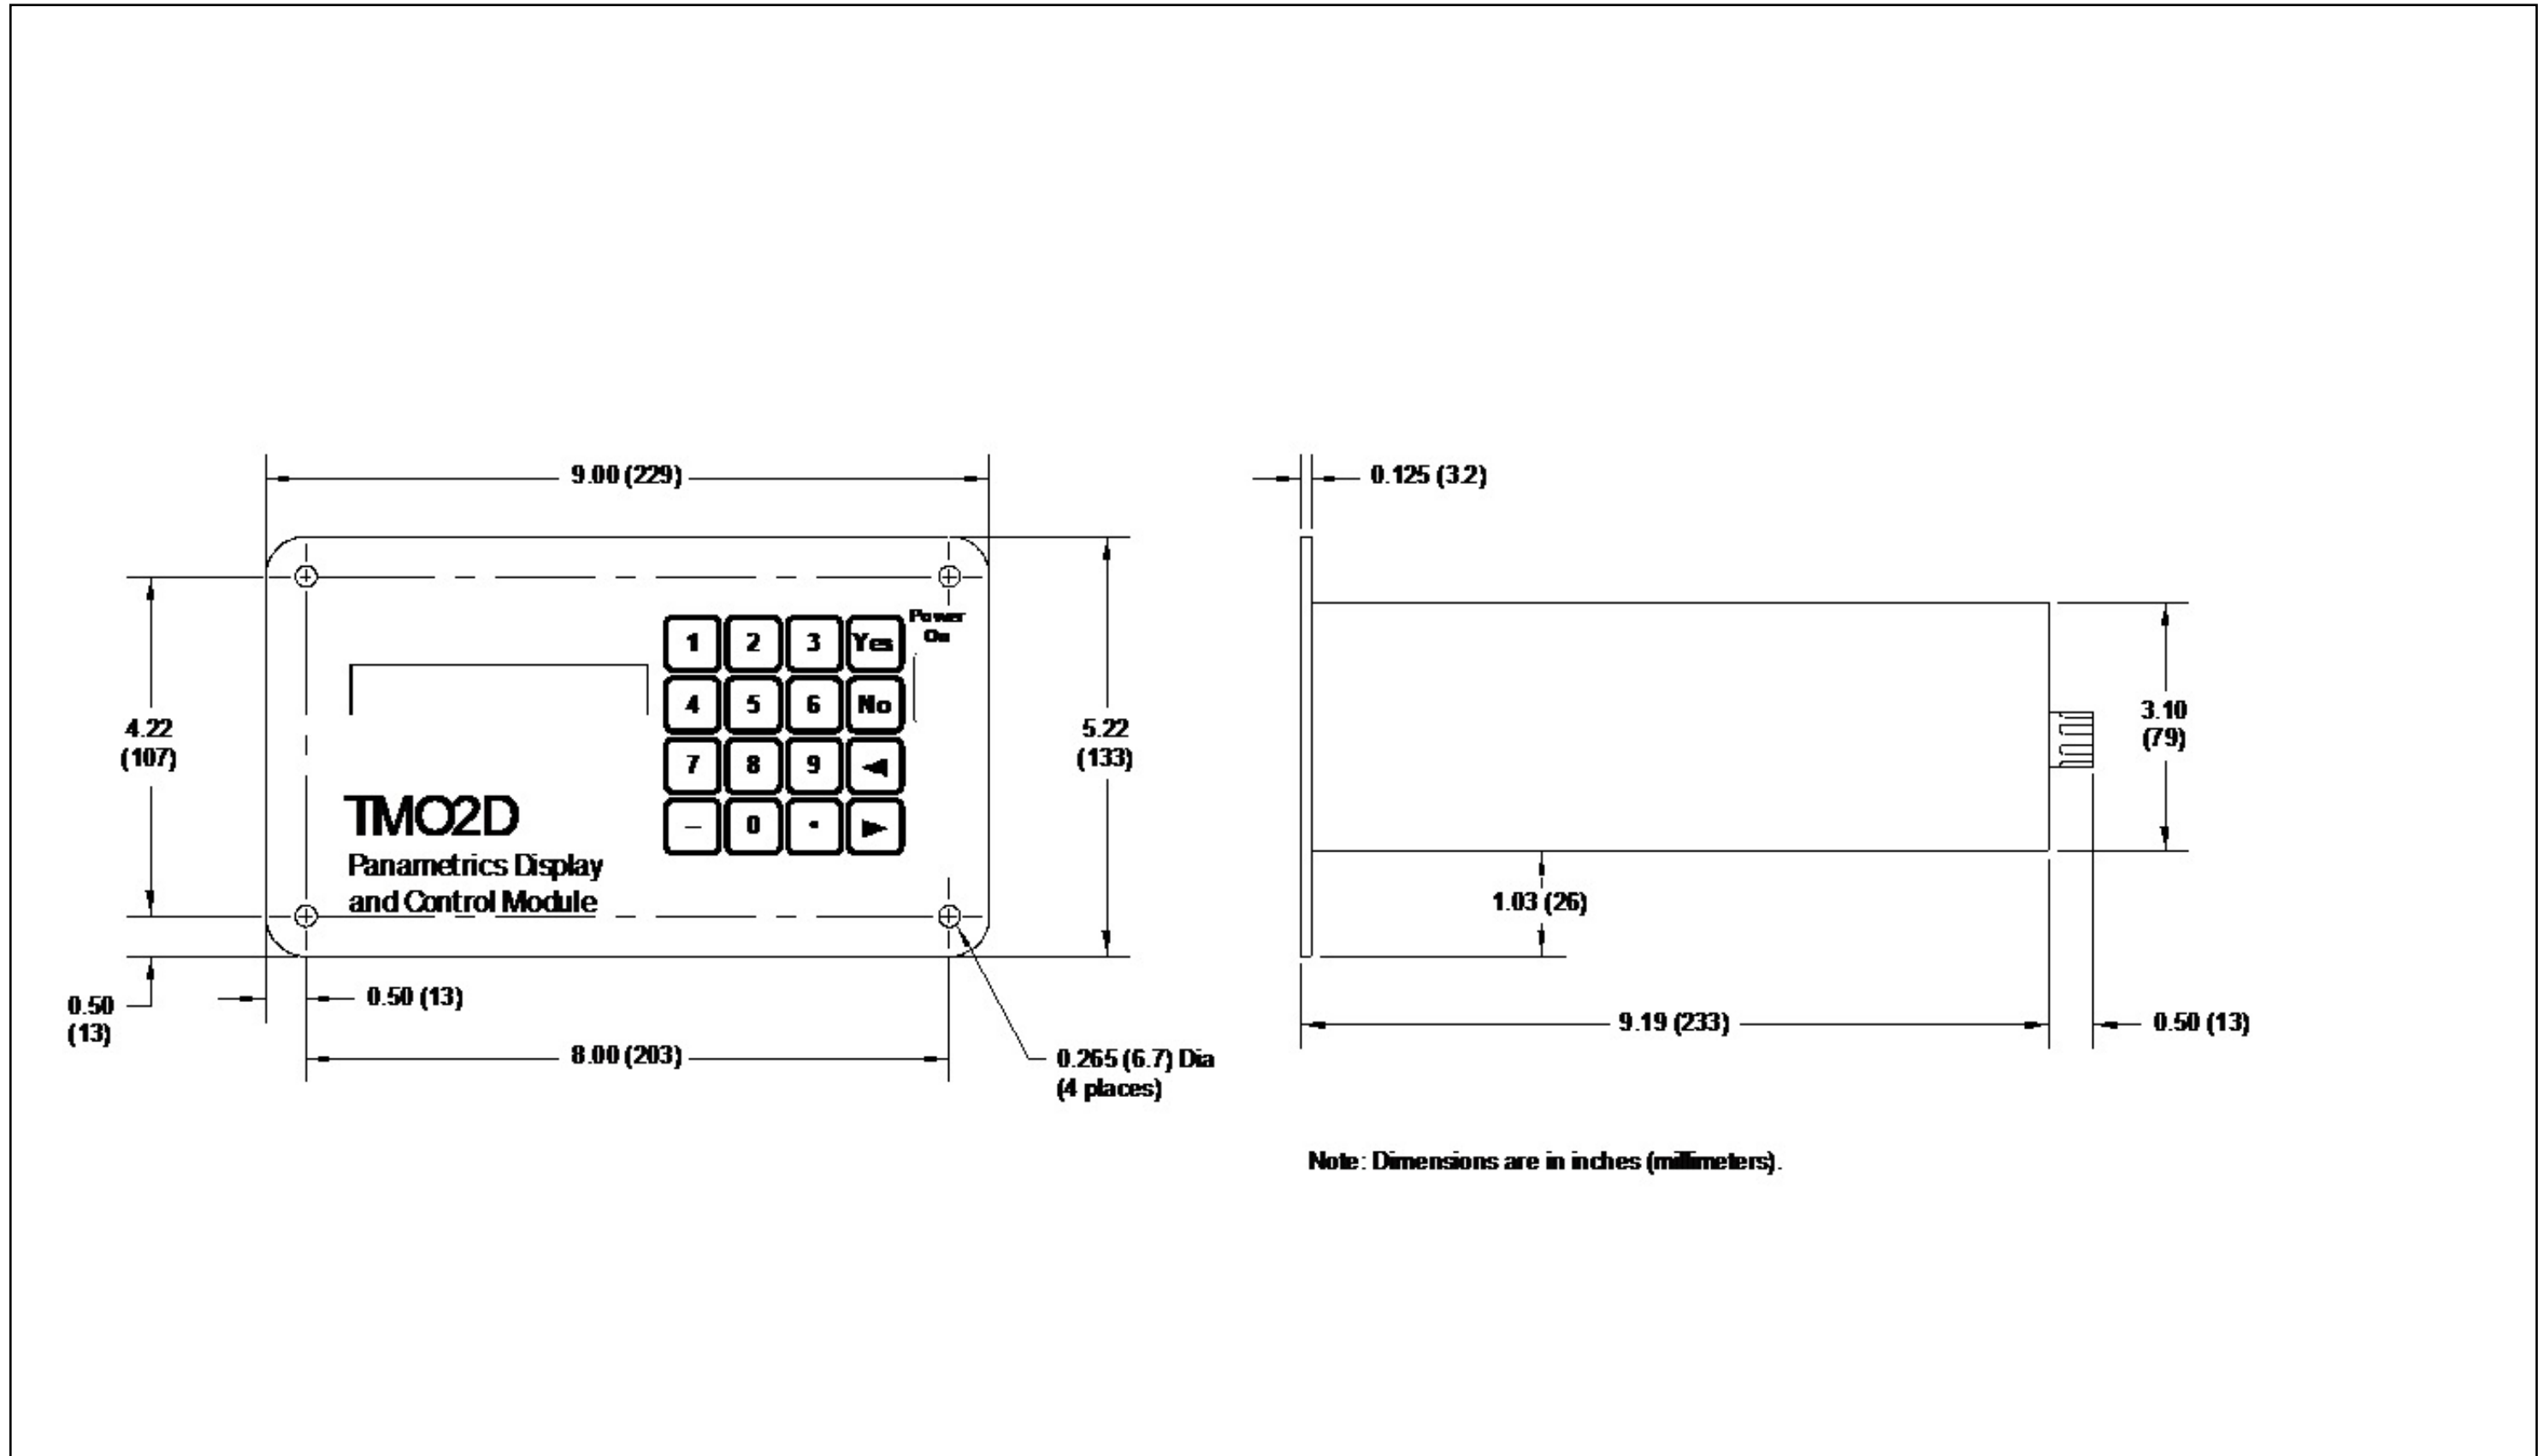

Figure 18: Panel Mount Outline (ref. dwg #712-222)
- Figure 18: Panel Mount Outline